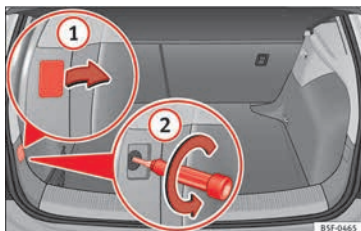

Fig. 115 Luggage compartment: location of the bolt securing the tail light unit.
- Remove the cover by prying the flat side of a screwdriver into the recess and remove the cover from the opening » **Fig. 115** ①.
- Carefully loosen the screw located behind the cover with a screwdriver, turning it anti-clockwise (arrows) » **Fig. 115** ②.